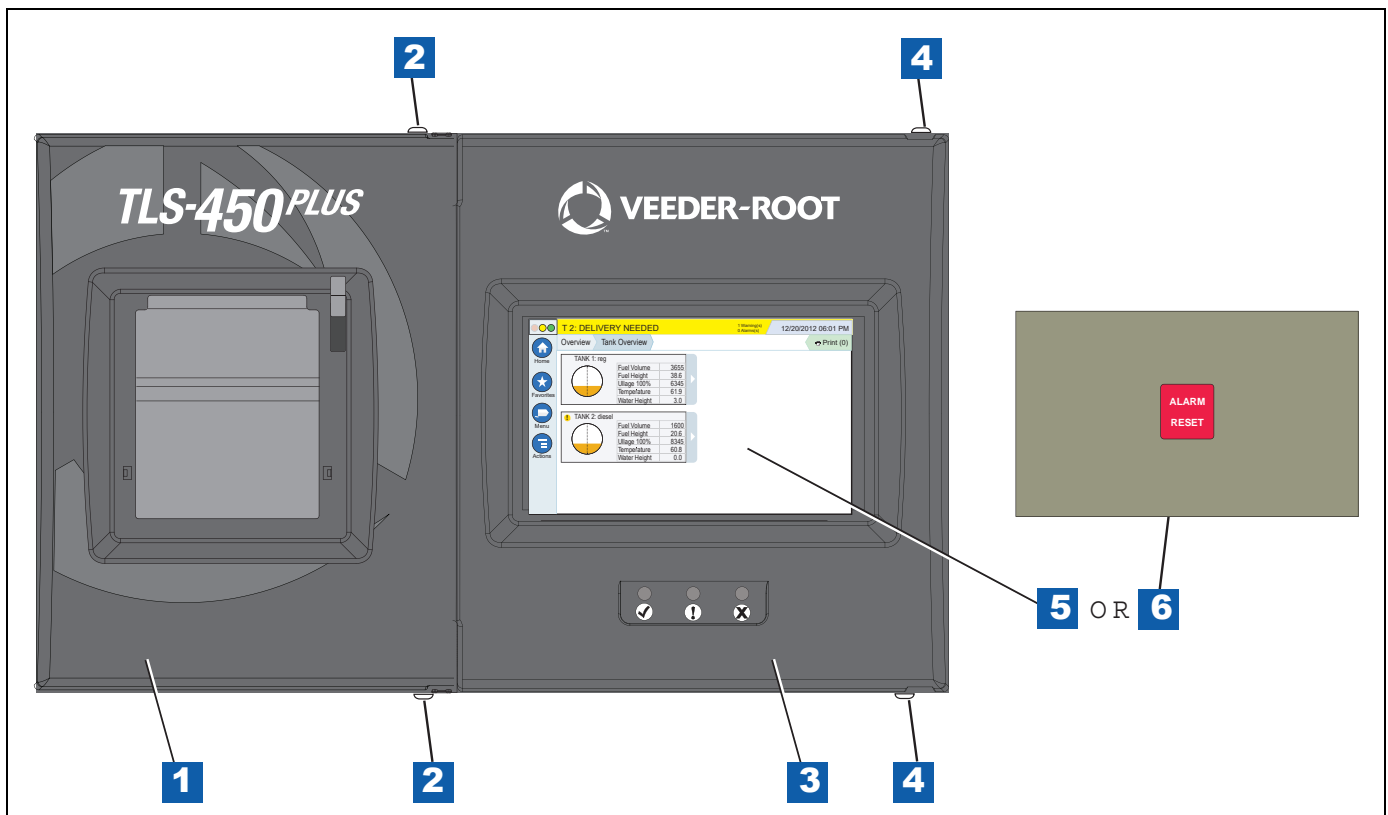

Figure 3. Opening the TLS-450PLUS Console Doors
- Figure 3. Opening the TLS-450PLUS Console Doors 4
1. Remove the both left and right door screws (with a T-15 Torx driver) and swing open both doors to the left (see Figure 3).
LEGEND FOR NUMBERED BOXES IN Figure 3
2. Remove both left and right door screws (with a T-15 Torx driver) and swing open both doors to the left (see Figure 3).